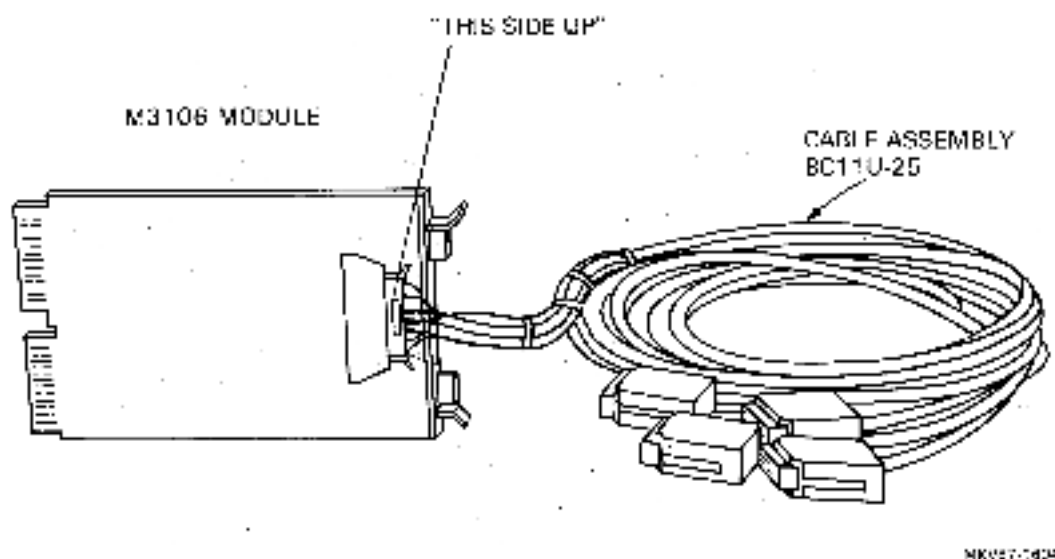

Figure 2-4 DZQ11 Installation (BC11U-25)
3. If the unshielded cab-kit (D3) version is used, replace the H329 test connector with the 40-way connector end of the BC11U cable assembly. Follow the "This side up" instruction on the assembly. Refer to Figure 2-4 for assembly and interconnection instructions.